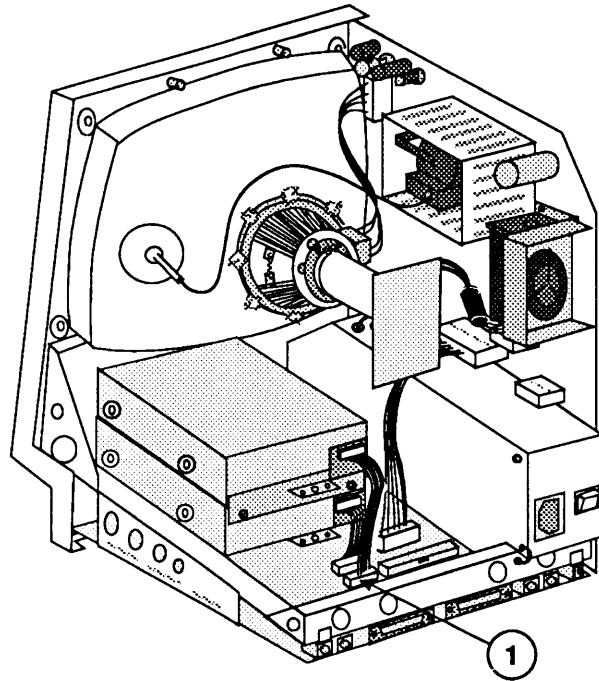

FIGURE 40
5. Reconnect the upper internal disk drive cable to connector J7 on the main logic board (Figure 40, #1).